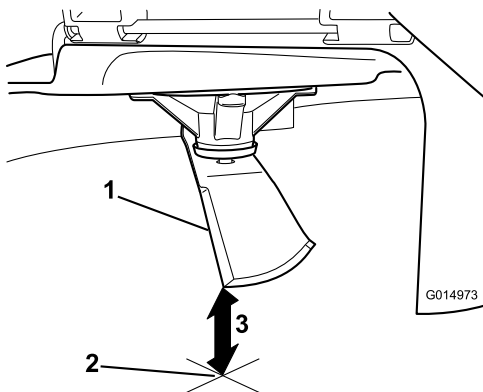

Figure 96
3. Measure from the tip of the blade to the flat surface (Figure 96).